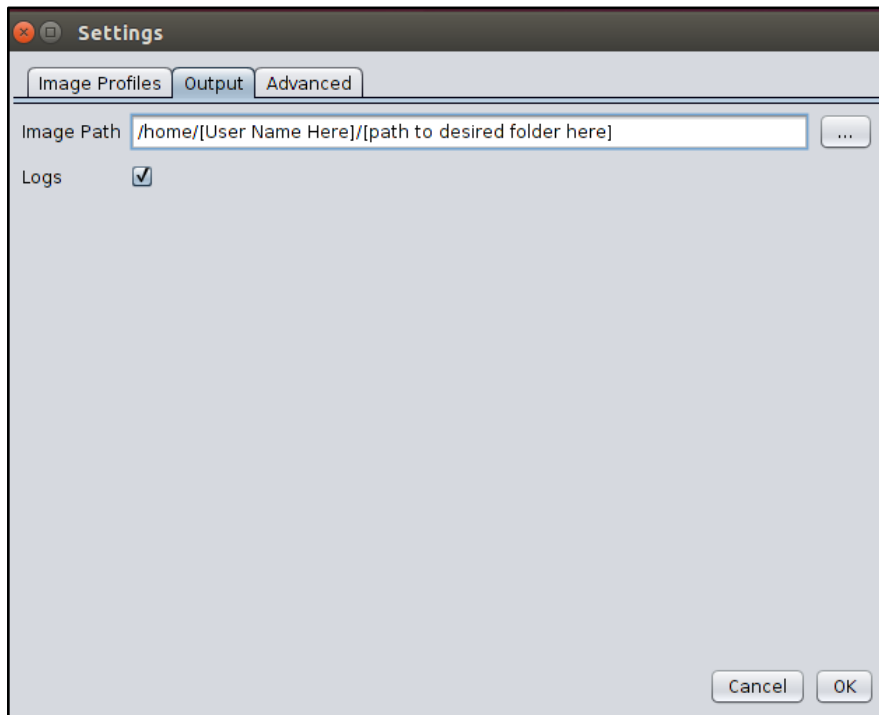

Figure 10: Enter the appropriate path to storage, check the Logs option and click OK.
3. Configure the KryoFlux GUI to select the output directory for your newly-created disk images and log files. To do so, select *File* → *Settings* and click on the *Output* tab. Browse to the appropriate path to storage. Ensure that the *Logs* button is checked, and then click *OK* (see figure 10).